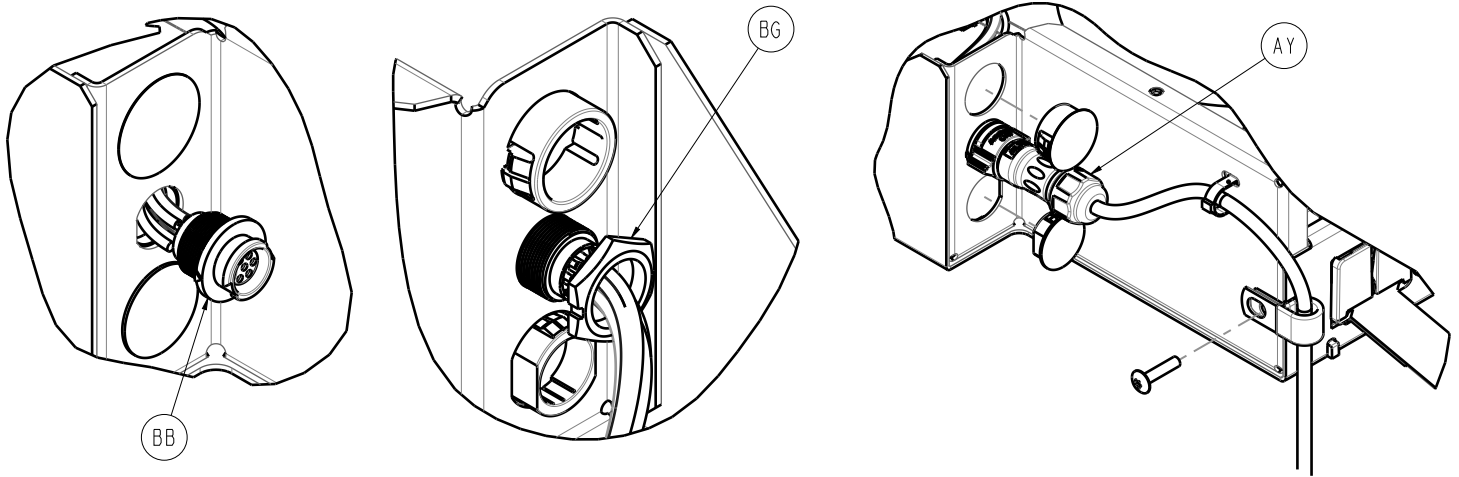

Figure 14 – Cables
- Using your fingers, disconnect the magnetic break away cable (297300560804) (AY) from the foot box and rotate the turn-lock counterclockwise (Figure 14).